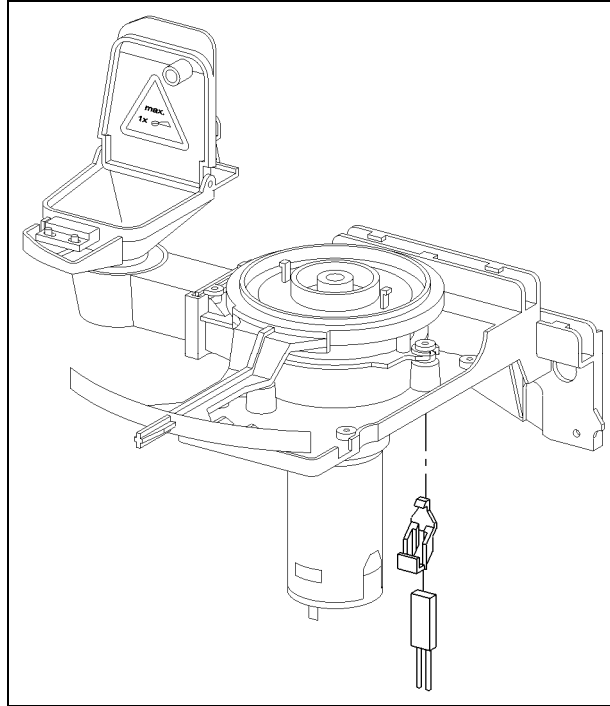

Figure 001-40: Grinder and Temperature Limiter
10. Release and disconnect the temperature limiter (white wire) from the grinder. Refer to Figure 001-40.
2. Release the temperature limiter from its retainer on the grinder (refer to Figure 001-40).